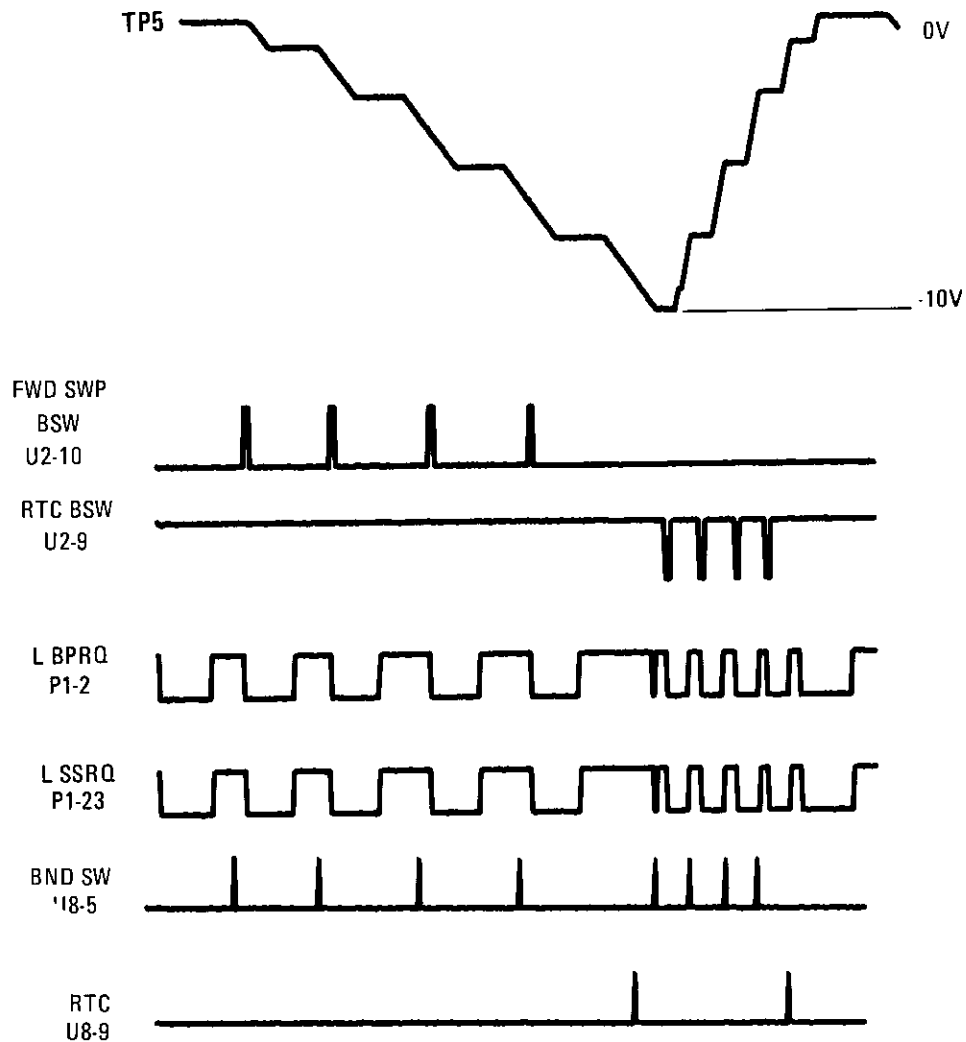

Figure 8-45. Sweep Control/Interrupt Logic Waveform
1. Verify operation of the bandswitch comparator by checking the FWD SWP BSW (U23 pin 7) and RTC BSW (U14 pin 7) waveforms as shown in Figure 8-45.
2. With an oscilloscope, check the following edge-connector pins: P1-3 (L SIRQ), P1-1 (L RTS), and P1-23 (L SSRQ) The appropriate waveforms are shown in Figure 8-45.
**NOTE:** Most of the signals discussed in this section are illustrated in Figure 8-45.